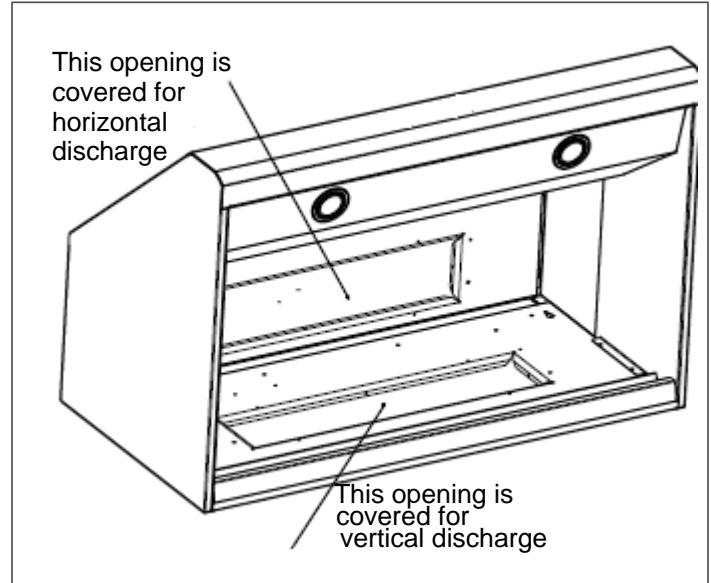

Figure 2: 24" & 27" Pro Wall Hood Models
The hood is shipped ready for vertical discharge. To change to horizontal discharge, move the discharge cover shown in Figure 2 to the top of the hood. The plate is held in place by (4) screws.
2. Align mounting holes at base of transition with the mounting holes of the 1/2" (13mm) flange located at the top or rear of the hood, depending on direction of discharge (see Figure 2 on page 5).